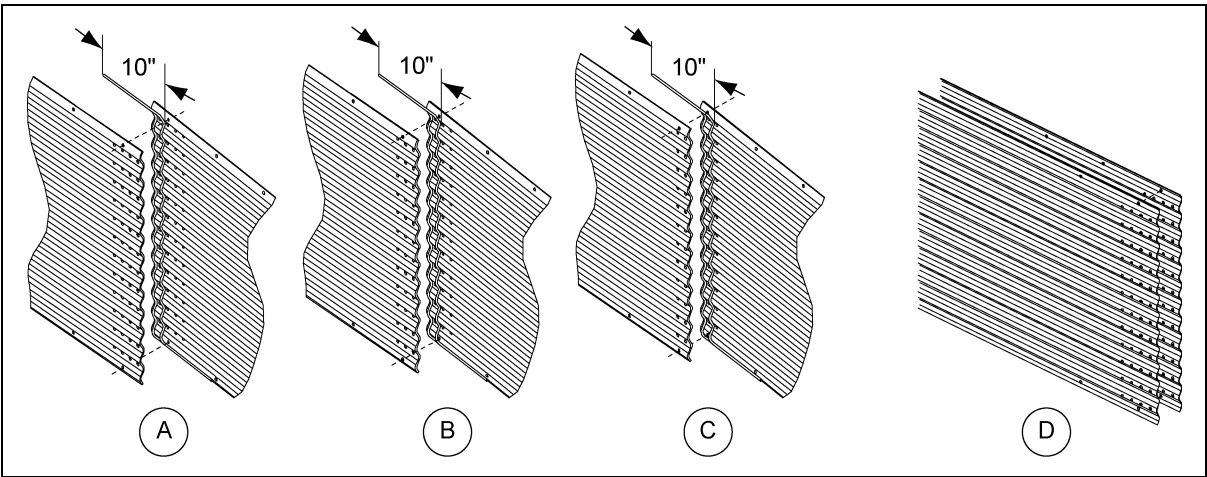

Figure 9C As Viewed from Inside of Bin (Externally stiffened reverse-rolled sheets shown.)
Apply one strip of caulking near the outside edge of the outer sheet and between the outer two (2) rows of bolts, refer to Figure 9C. A strip of caulking 10" long, should be placed along the horizontal seams. Before bolting the next ring in place, apply one strip of caulking 10" long on the front of the underlapped sheet at each joint. Also, a 10" strip of caulking is to be placed along the lower horizontal edge of lapping sheet at every vertical seam. This will fill the space that occurs between the holes caused by the overlapped sheets. Additional 10" strips should be used to fill gaps that occur with heavier gauges.